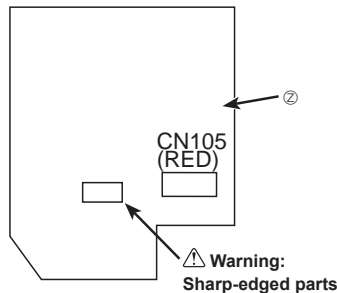

Fig. 6-6
- 14 CN105 (RED) on indoor controller board. (Fig. 6-6)
- (R) Front grille
- (S) Screws
- (T) Screws and screw caps
- (U) Screw of the corner box
- (V) Hooks
- (W) Screw of electrical box cover (side)
- (X) Screw of electrical box cover (Front)
- (Y) Water cut
- (Z) Indoor controller board (I.B)